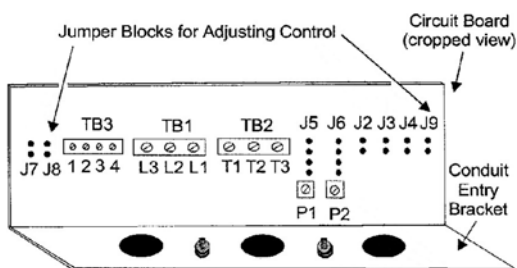

FIGURE 8 - JUMPER BLOCK LOCATIONS
12. Check positioning of two jumpers to assure proper operation of VFD66 control. See Figure 8.